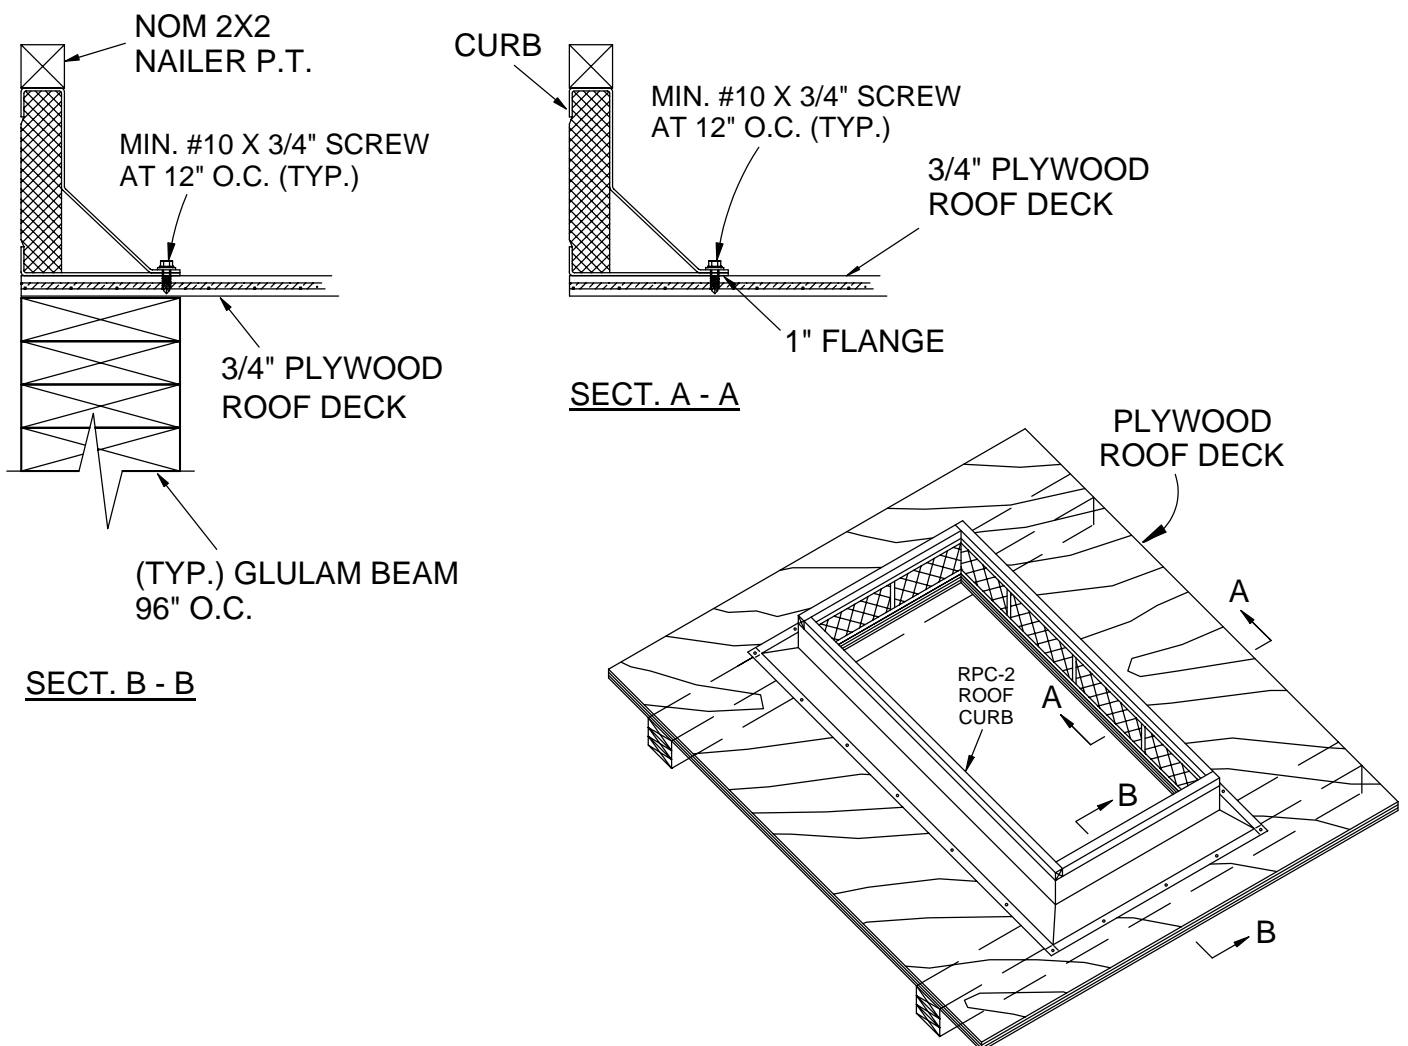

FIGURE 7
4. RPC-2 installed on wood decking. (fig. 7)